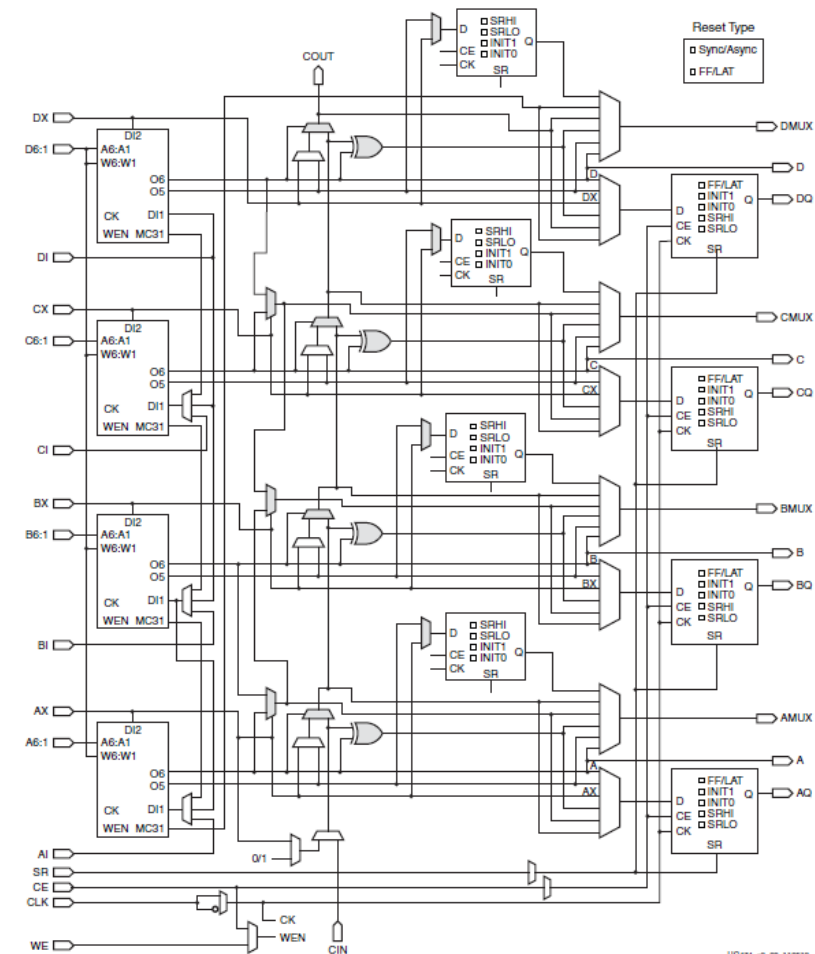

Figure 2-3: Diagram of SLICEM
- SLICEM (Figure 2-3) represents a superset of elements and connections found in all slices